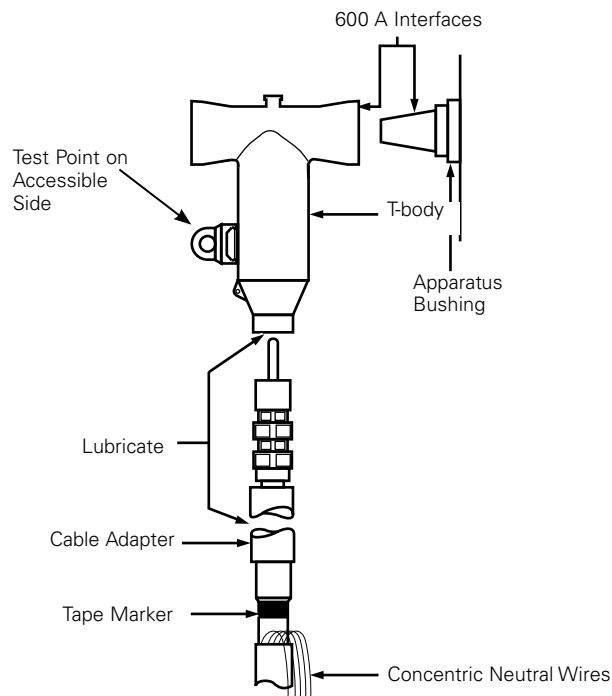

Figure 24. Line illustration of BOL-T T-body installation.
- Without moving the cable adapter, slide T-body onto cable adapter until compression connector eye is centered in 600 A interfaces. (Refer to Figure 24.)